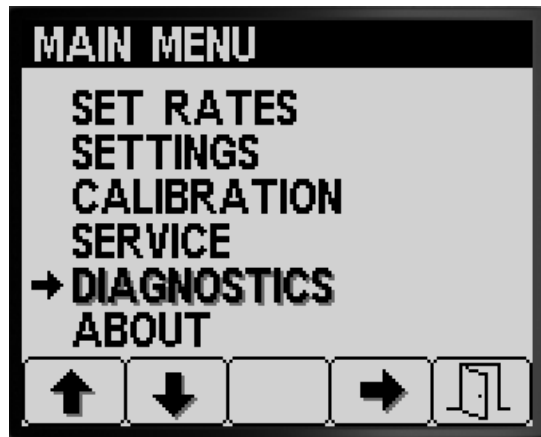

Figure 83
1. To access the Diagnostics screen press buttons 1 or 2 on the Main Menu screen to navigate to the DIAGNOSTICS option (Figure 83); refer to Accessing the Main Menu Screen (page 3).
2. Press button 4 to select DIAGNOSTICS sub-menu (Figure 83).